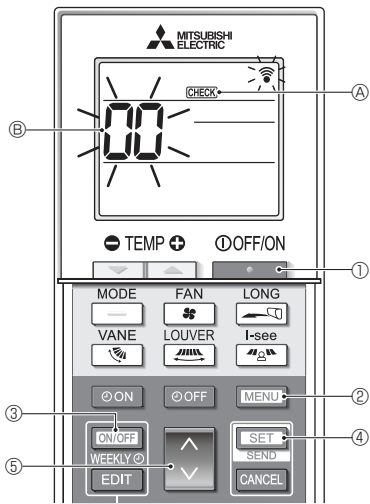

Fig. 6-2
6.2. Self-check (Fig. 6-2)
- Press the **OFF/ON** button ① to stop the air conditioner.
- If the weekly timer is enabled (**WEEKLY** is on), press the **ON/OFF WEEKLY** button ③ to disable it (**WEEKLY** is off).
- Press the **MENU** button ② for 5 seconds.
- Press the **DOWN** button ⑤ to select the refrigerant address (M-NET address) ⑥ of the indoor unit for which you want to perform the self-check.
- Press the **SET** button ④.
- Press the **OFF/ON** button ①.